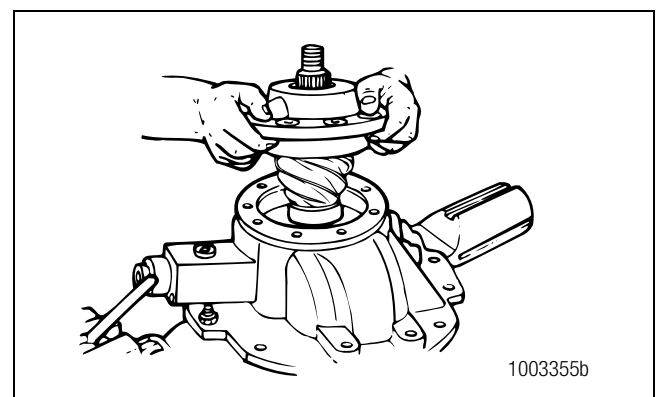

Figure 5.16
2. Install the drive pinion and cage assembly into the carrier. Do not install shims under the bearing cage. Figure 5.16.